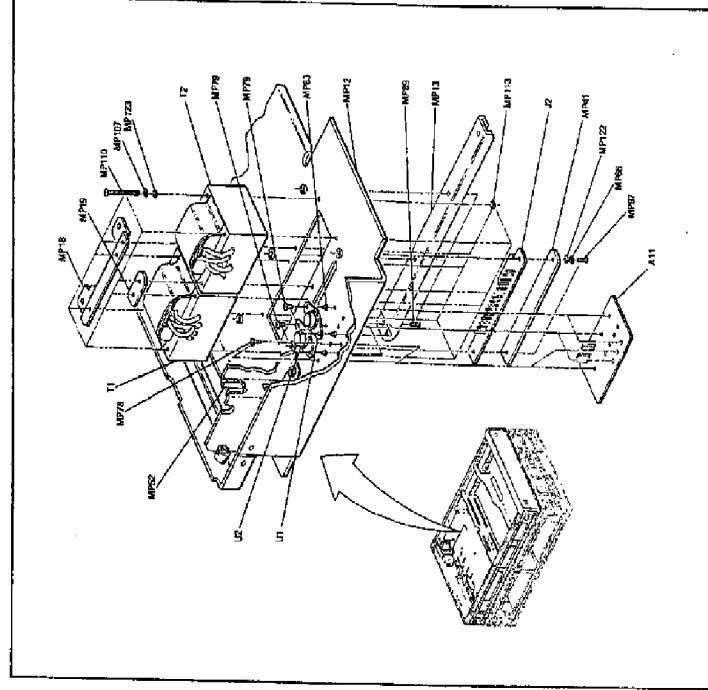

Figure 8-309. AS Power Transformers
- Remove the three screws securing Transformer Board Support ASMP18 through the transformer to the Main Deck ASMP18. (Refer to Figure 8-309.)